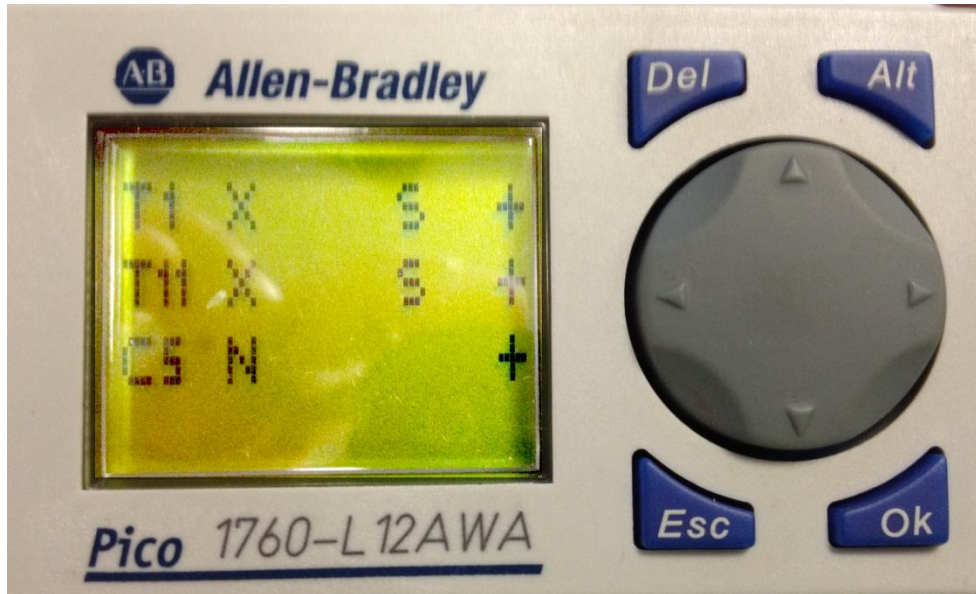

Figure 3. Screen C
24. Run and connect the air feed lines to the retract cylinder and reservoirs on both sides (refer to Figures 3 and 4).